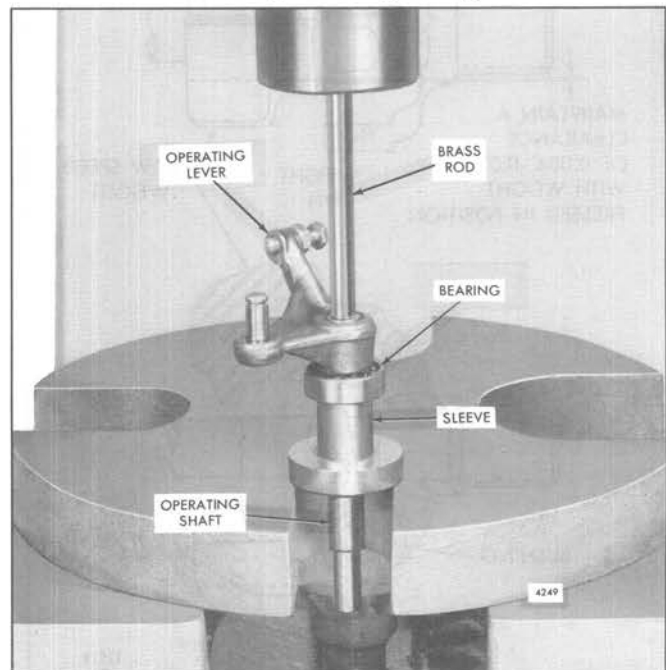

Fig. 17 - Removing Operating Lever and Upper Bearing From Operating Shaft
- k. Support the operating shaft, lever, bearing and sleeve on a large washer or plate, with a 5/8" hole, on the bed of an arbor press (Fig. 17). Place a small brass rod on the end of the shaft and press the operating shaft out of the operating lever and bearing. Catch the shaft by hand when pressed from the lever and bearing to prevent it from falling and being damaged.